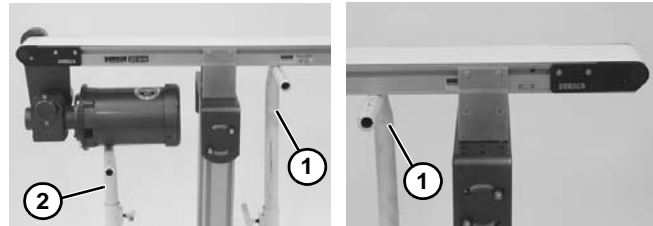

Figure 58
1. Ensure temporary support stands (**Figure 58, item 1**) are placed at both ends of the conveyor. Place an additional support stand under the drive motor (**Figure 58, item 2**), if equipped. See WARNING.